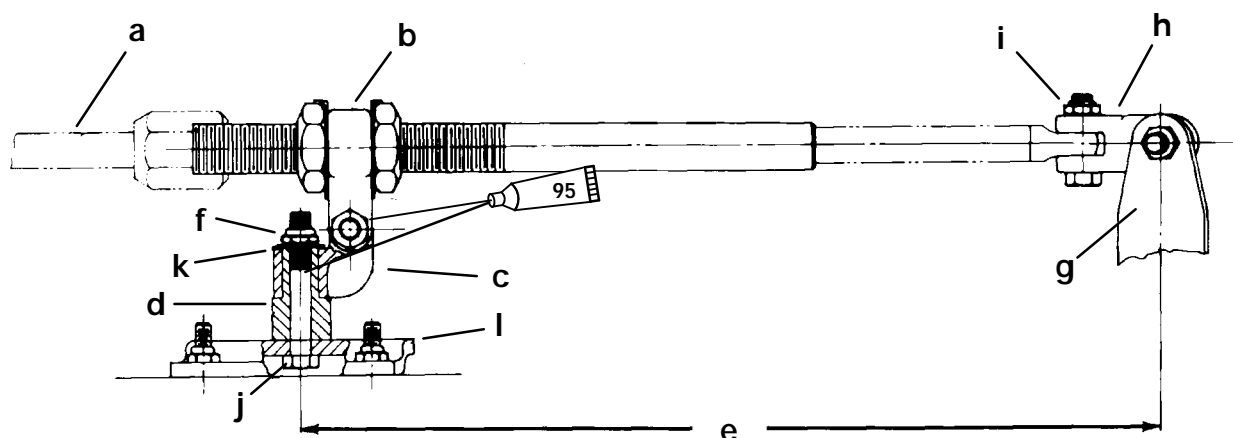
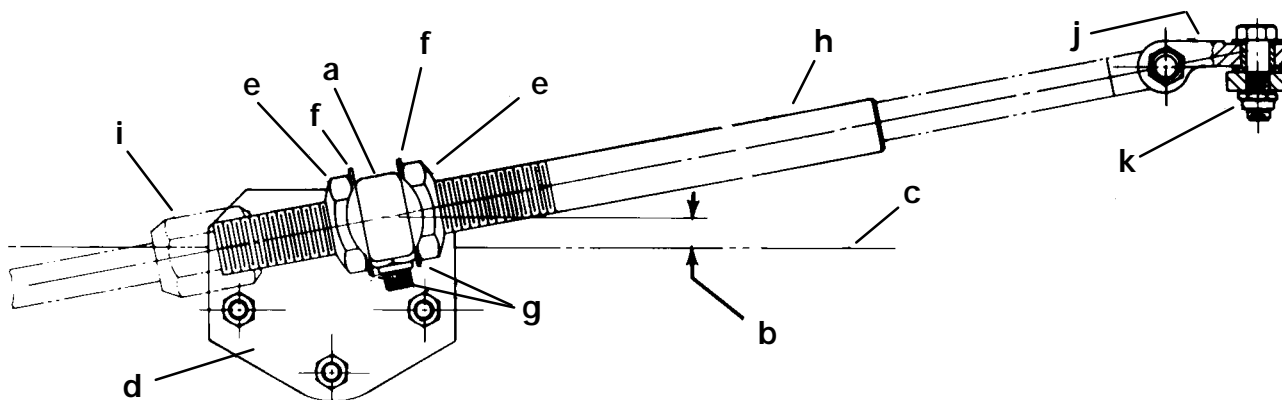

Figure 1
Figure 3
1. Lubricate both holes in pivot block (Figure 1) with Quicksilver 2-4-C w/Teflon.
2. Place pivot block on pivot spacer and secure to transom bracket with 3/8 in. x 2-1/2 in. (9.5mm x 63.5mm) bolt, flat washer and locknut, as shown in Figure 1. Torque locknut to 20 lb. ft. (27.1 N·m).
3. Place Ride-Guide yoke on pivot block and secure with 7/16 in. x 1-3/4 in. (11.1mm x 44.5mm) bolt and locknut, as shown in Figures 1 and 2. Torque locknut to 10 lb. ft. (13.6 N·m), **then back off 1/4-turn.**
4. Install one cable tube jam nut onto steering cable tube. Place tab washer over Ride-Guide yoke, then insert cable tube thru tab washer and yoke. Install second cable tube jam nut onto cable tube but do not tighten at this time. (Figure 3)
centerline and draw a vertical line on transom. (Figure 1)
- b. Position attaching kit on transom so that **transom bracket is centered on the 15 in. (38.1mm)** (Figure 1) at a height where the **center of Ride-Guide yoke is even with, or not more than 1/2 in. (12.7mm) above top edge of transom.** (Figure 3)
2. Install steering cable thru steering cable tube and secure to cable tube with cable attaching nut. (Figure 3) Do not tighten cable attaching nut at this time.
4. Adjust 2 large jam nuts on cable tube of attaching kit, so that **steering wheel** is in normal straight-driving position with outboard in straight-running position. Torque each jam nut to 35 lb. ft. (47.5 N·m), then bend a side of tab washer against flat of each jam nut. (Figure 3)
5. Torque Ride-Guide cable attaching nut (which secures cable to guide tube) to 35 lb. ft. (47.5 N·m). (Figure 3) Install locking sleeve over cable attaching nut and secure with cotter pin. Spread ends of cotter pin.
4. Check steering system fasteners (at intervals specified, preceding) to be sure that they are torqued to correct specifications. (Figures 1, 2 and 3)